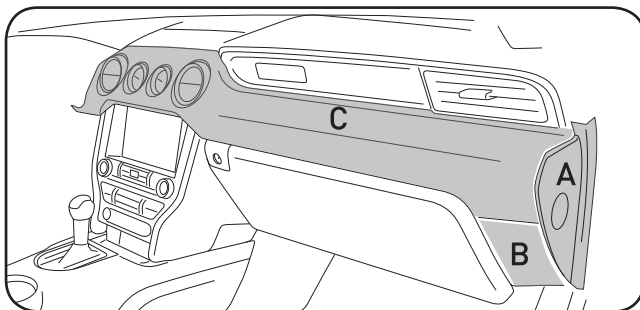

Fig. 1.1
1. Open the passenger door. Unclip and remove trim panel from the side of dash. (Fig. 1.1-A)
2. Open the glove box. Unclip and remove trim panel on the right. (Fig. 1.1-B)
3. Unclip and remove the (vent) dash panel. (Fig. 1.1-C)